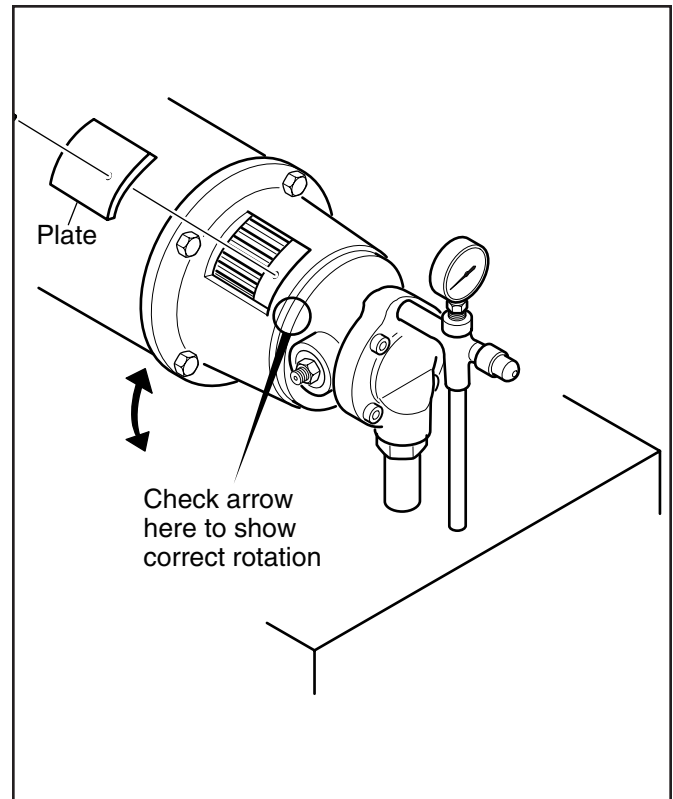

Figure 3.6 Check Pump Rotation
2. Start the hydraulic pump and check rotation as shown in Figure 3.6.